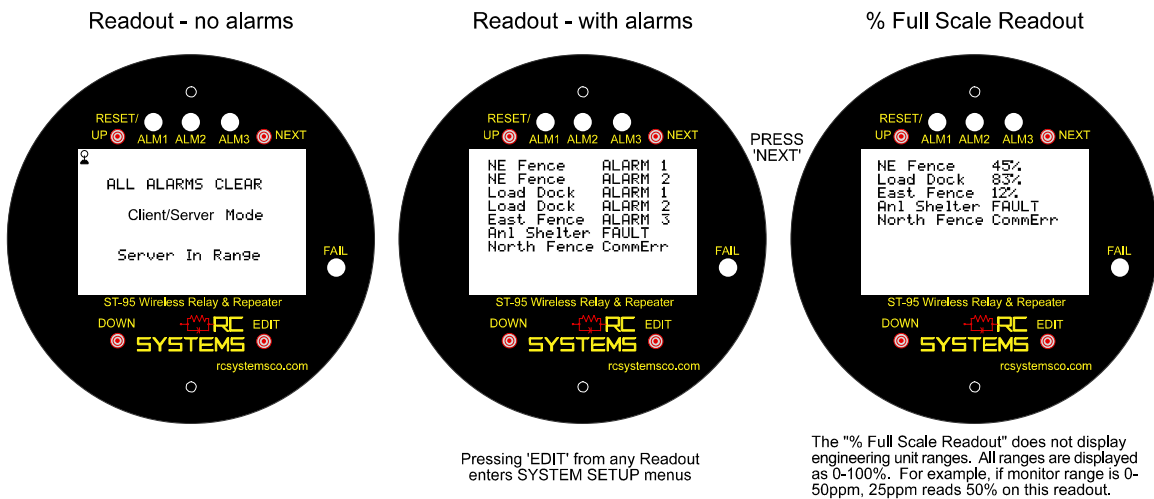

Figure 2-1: Readout Screens
- Rx icon “” flashes at top left corner of each readout when an ST-48RF wireless message is received by the ST-95 (see left Readout in Figure 2-1). “Server In Range” or “Server Out of Range” and “ST-48 Low Battery” conditions are also indicated.
Figure 2-1 shows the ST-95's three LCD readout screens for displaying values and alarms from up to sixteen ST-48 sensor transmitters. Readouts in Figure 2-1 simulate a five channel system with an imaginary facility's ST-48RF locations identified as **NE Fence**, **Load Dock**, **East Fence**, **Ani Shelter** and **North Fence**. Eleven characters are available for users to identify each ST-48RF name/location/tag #, by ST-95 channel, on the LCD. Lower channel numbers (1-16) are displayed on top. If the quantity of alarm events requires additional screen pages, the ST-95 will scroll each alarm onto the LCD and highlight the lowest channel # with an arrow. As operators watch alarm events scroll past, they know they have seen all events when the arrow shows again.